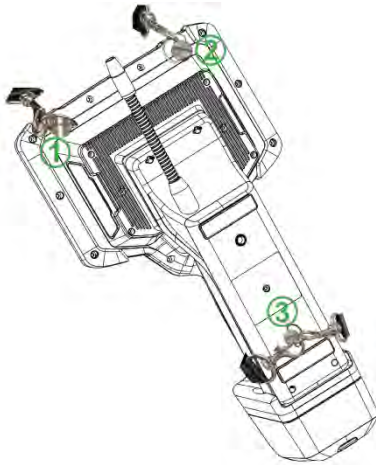

Figure 7-7
- 2) There is a buckle on the left and right sides of the back of the host (as shown in Figure 7-7), ① and ② are fixed.
- 3) 2 buckles are hung on the back of the battery compartment at the same time (as shown in Figure 7-7), ③ fixed position.